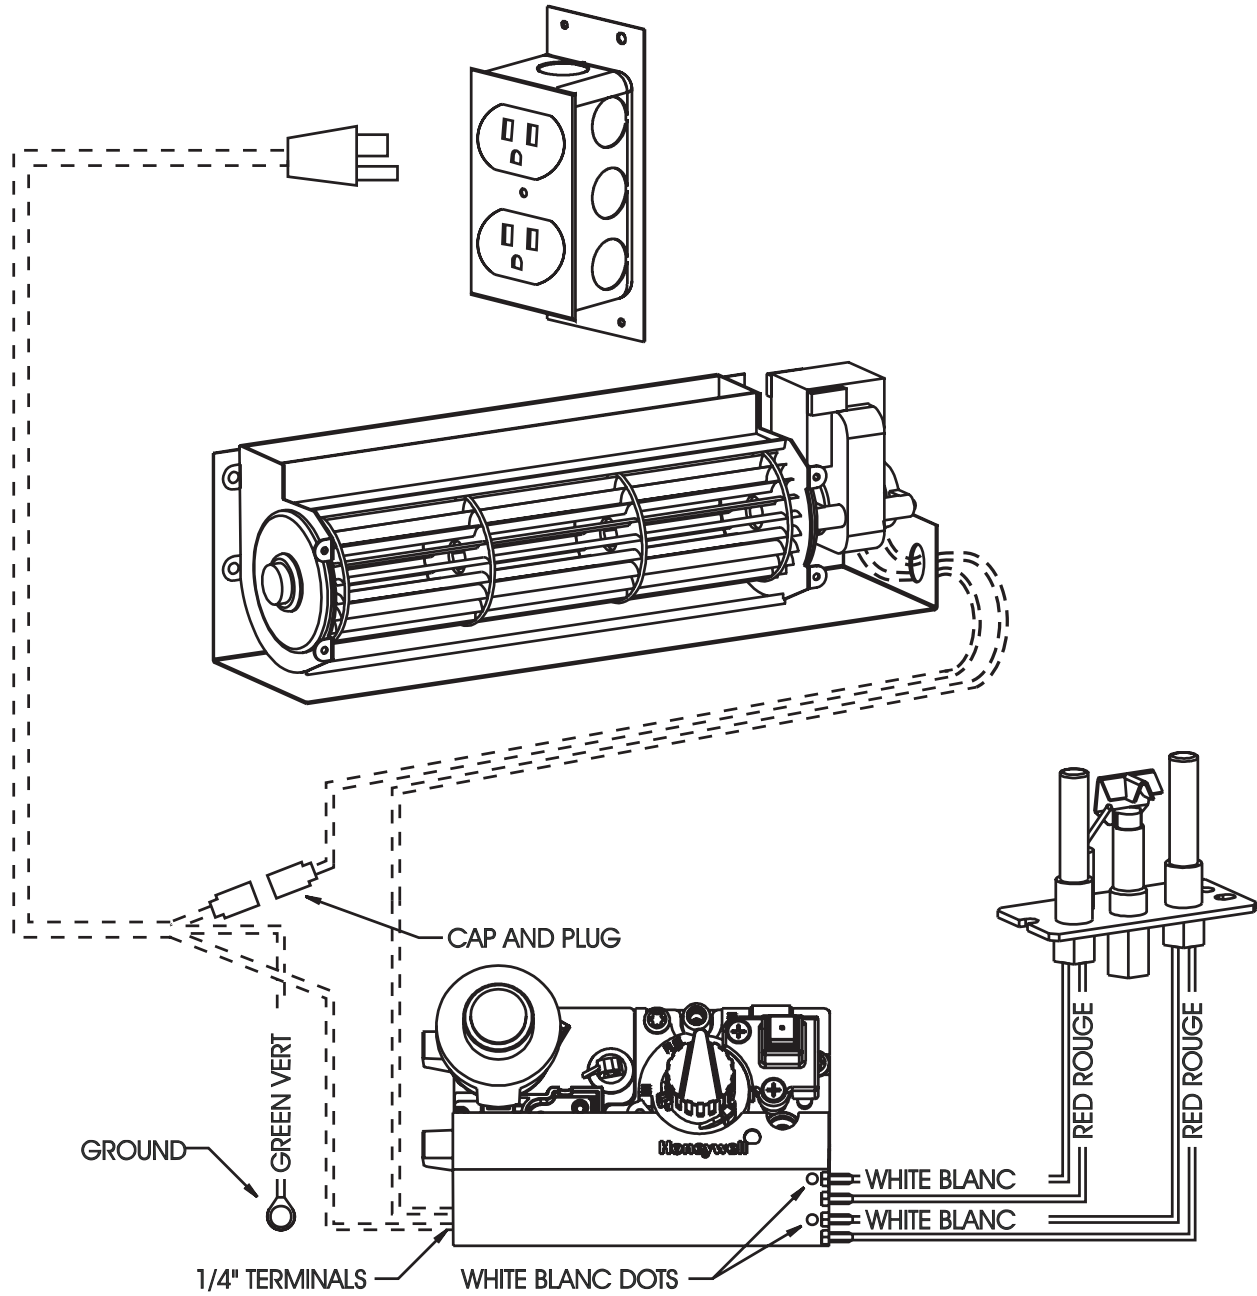

Figure 56
- Make sure antennae is not touching metal and is horizontal. Refer to Figure 56.